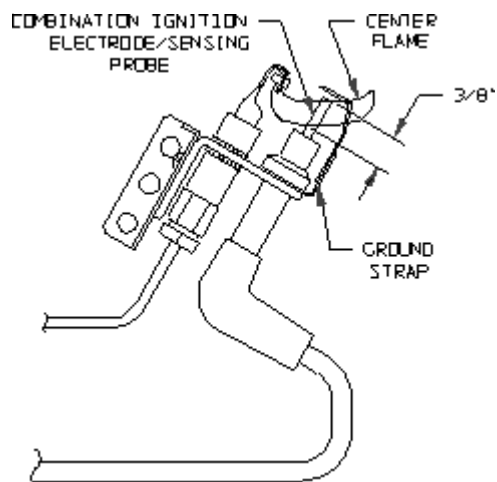

Figure 23: Pilot Burner Flame
- 9) Observe pilot burner flame. See Figure 23. The pilot flame should be a steady medium blue flame covering around 3/8" to 1/2" of the spark electrode / flame rod.